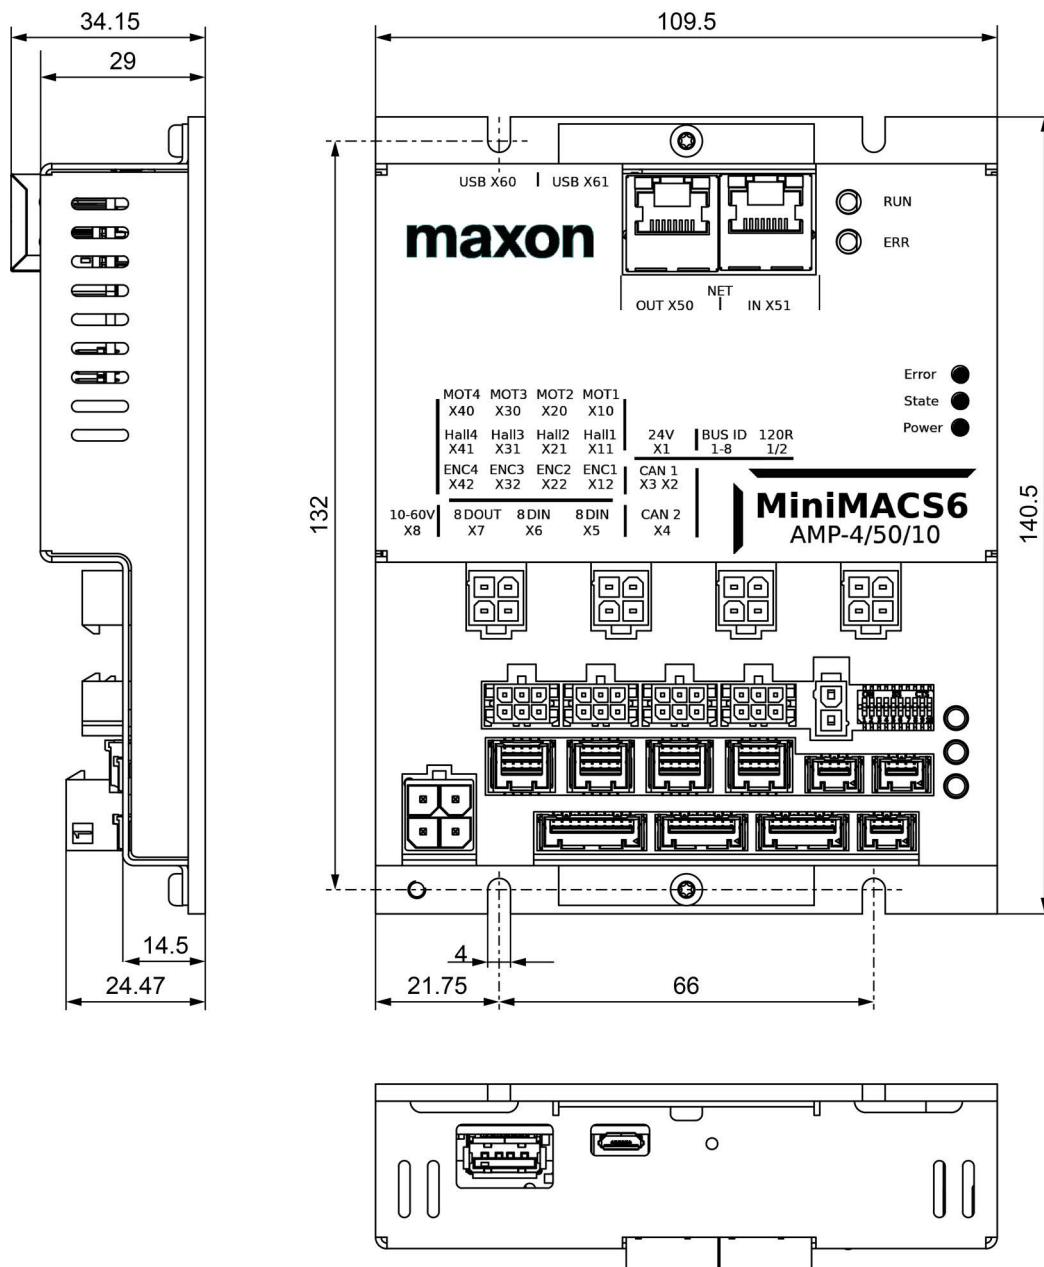

Figure 2-3 MiniMACS6-AMP-4/50/x-IF1 – Dimensional drawing [mm]
- for (001757) and (001784) see →Figure 2-3 on page 2-15.